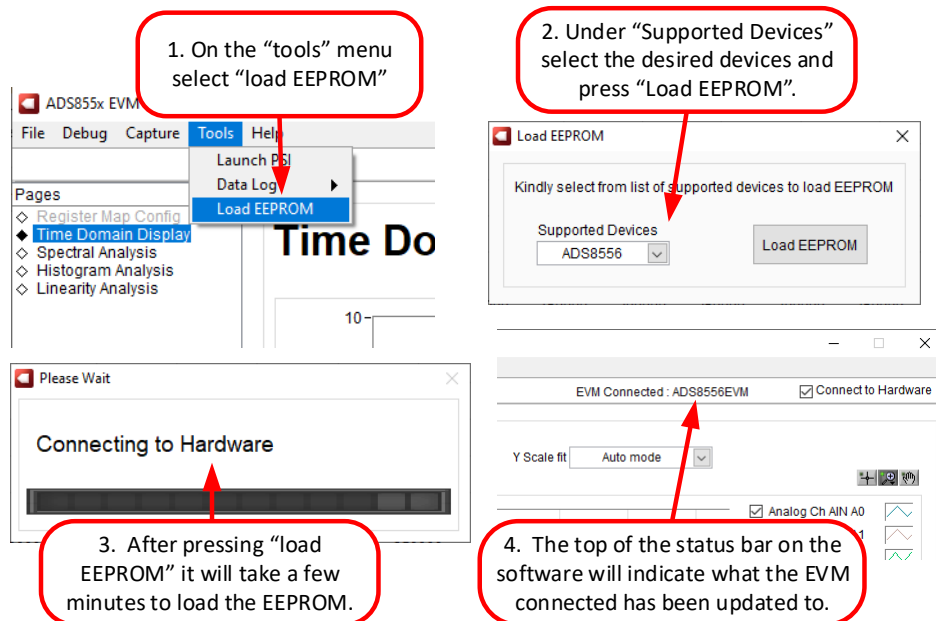

Figure 6-4. Configure EEPROM and Software for the New Device
4. Under the *Tools* menu in Figure 6-4, select *Load EEPROM* to load the EEPROM according to the device that is currently installed. When this procedure is successfully completed, the status bar at the top of the software updates according to the device installed on the hardware.